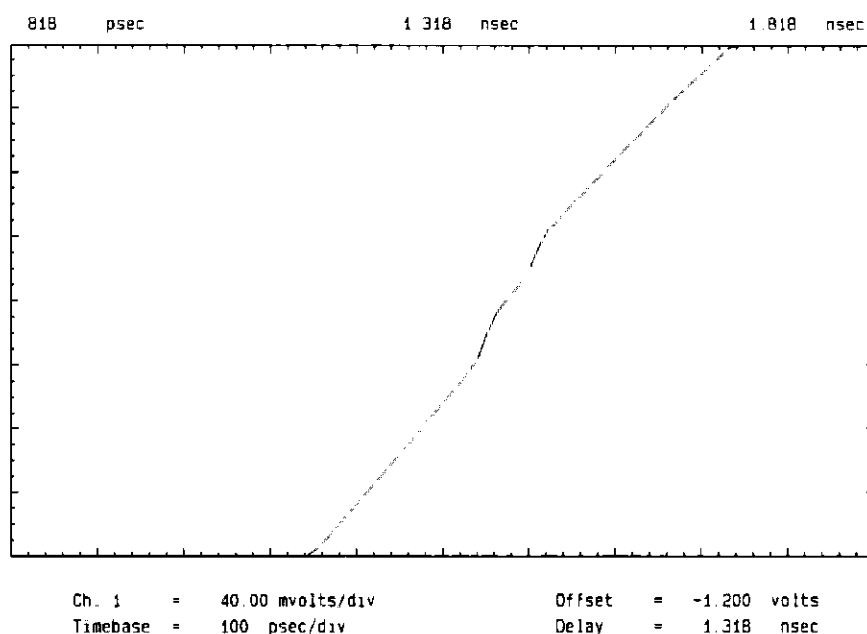

*figure 4-8. Close adjustment but not correct (note small "S" shape).*
*If A9R4 is not adjusted correctly but is close, the display will have a small but very observable "S" shape as shown in figure 4-8.*